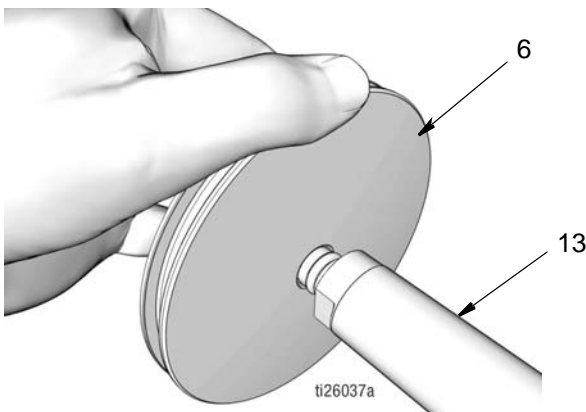

FIG. 48
- c. Push piston (6) over end of piston rod (13) until it is seated on the rod (FIG. 48).